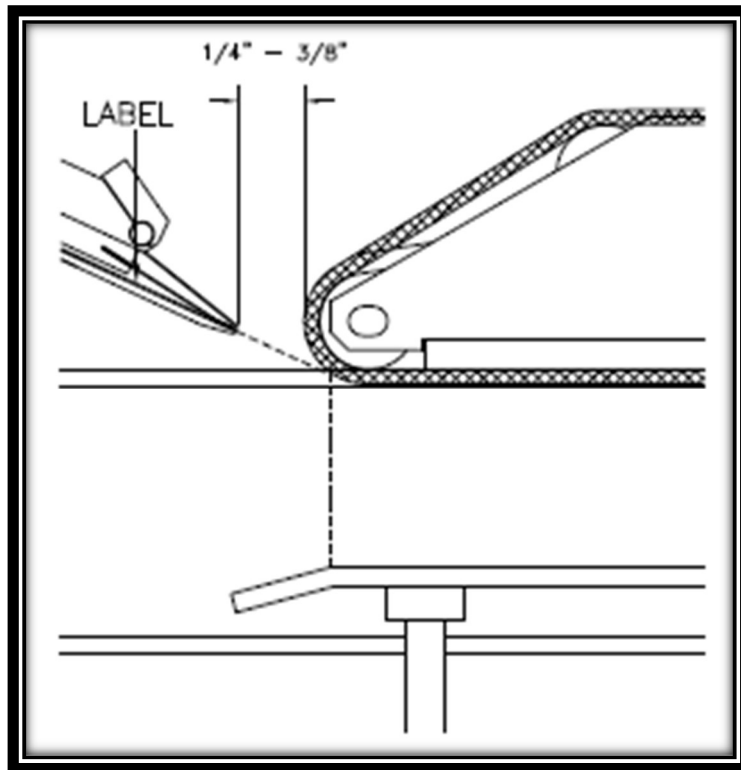

Figure 29 Pressure Bar Position
The in feed side of the spring-loaded pressure bar has a bend that provides proper product guidance into the wrap unit. The point where the bend begins should be directly across or slightly before the in feed radius of the wrap belt. See *Figure 29*. The proper positioning of the pressure bar will ensure stable product position at the entrance of the wrap unit.
2. Position the applicator so that the peeler plate tip is 1/4 to 3/8 inch from the tangent of the wrap belt. (See *Figure 29*).